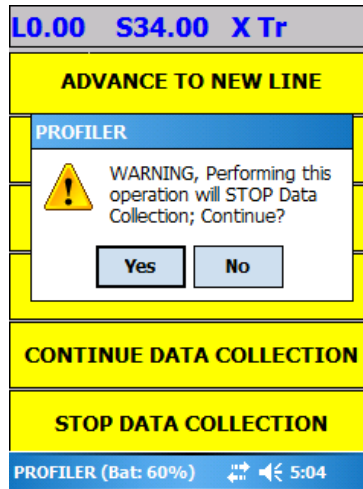

Figure 65: Run-time menu - Stop Data Collection Courtesy Check.
1. Once the survey grid has been collected, the user should do one of the following to stop data collection and return the PDA to the Data Collection menu (Figure 65).
2. The EMP-400 software will prompt the user with a courtesy check to ensure that the user does wish to terminate data collection (Figure 65).